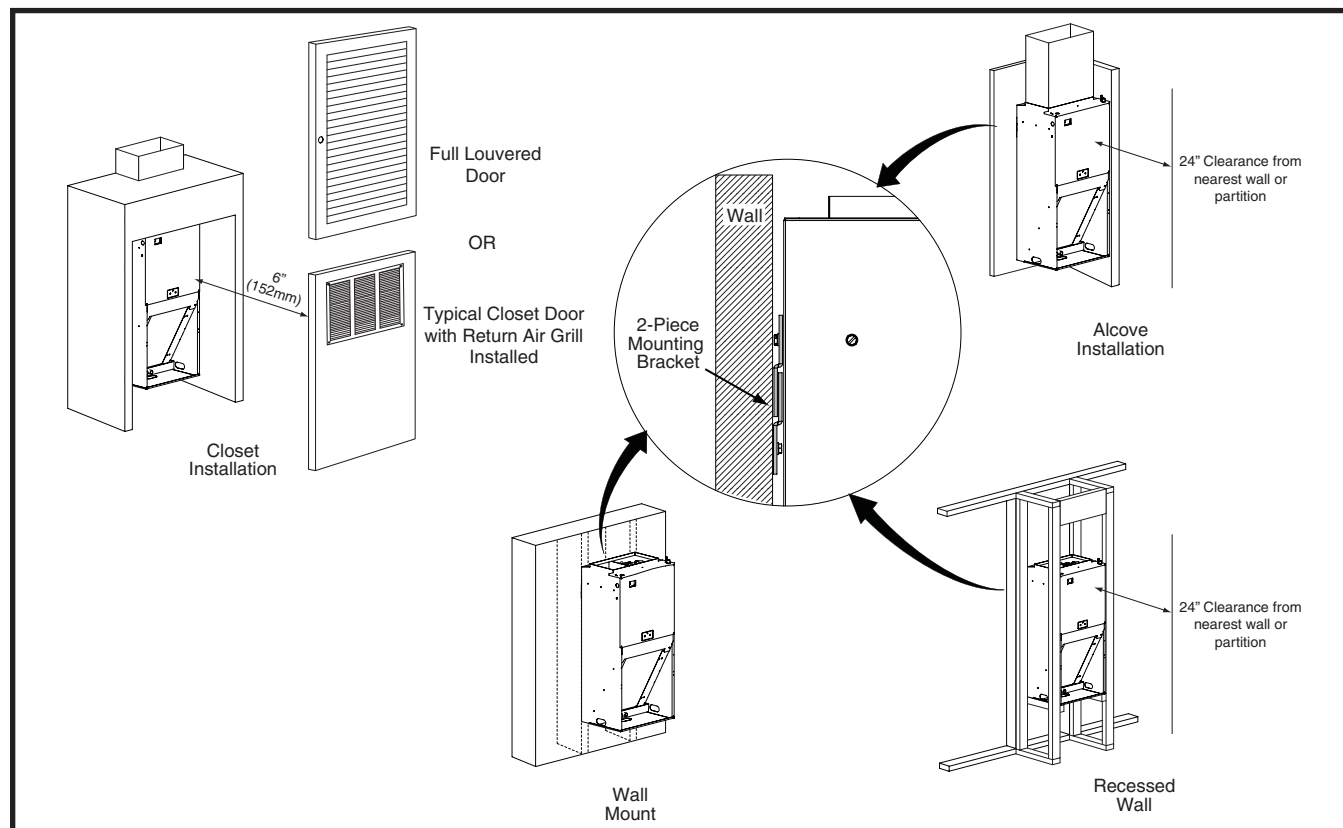

Figure 1. Unit Installation
The B6EW Air Handler is shipped ready for vertical upflow installation and can be mounted directly on a wall or recessed between framing studs as shown in Figure 1. Units are also approved for closet or alcove installation with zero clearance to combustibles. See Table 1 (page 4) for required installation clearances. **This appliance is only for indoor use.**
- If a louvered door is installed across the front of this unit, the appliance must be mounted flush or behind front edge of finished wall. See Figure 1.
If the air handler is recessed in a wall, attachment to the framing studs are through the inside of the front flange. For hanging applications, these units are provided with 2-piece offset hanging bracket (Figure 1) attached to the rear of the cabinet. Mounting bracket dimensions are shown in Figure 4 (page 13).